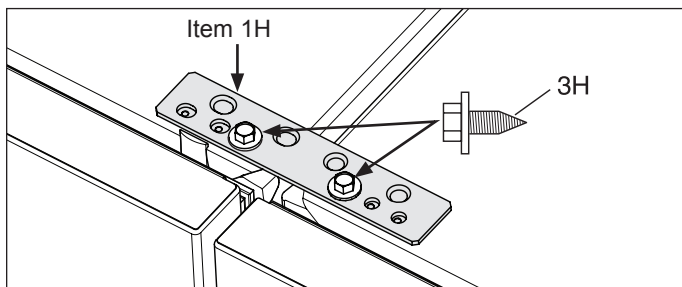

Figure 7.
- c. Tie units together with the common mounting bracket at the front top with two screws in the inner two screw holes by using a 3/8" socket. (See Figure 7).